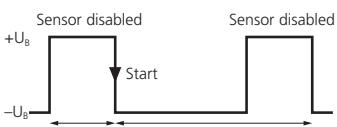

Fig. 3: External synchronisation signal
- Apply a square-wave signal to the sync-input with pulse width  $t_i$  and repetition rate  $t_p$  (Fig. 3 and technical data).